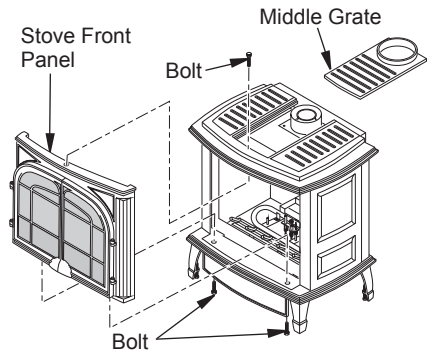

Figure 39 - Removing Front Panel from Stove (Oxford™ Model Shown)
1. If stove front panel is still installed, remove 2 bolts from bottom of stove and one from the top of stove to remove front panel (see Figure 39). For the Oxford stove the middle grate will need to be removed to remove the top bolt.